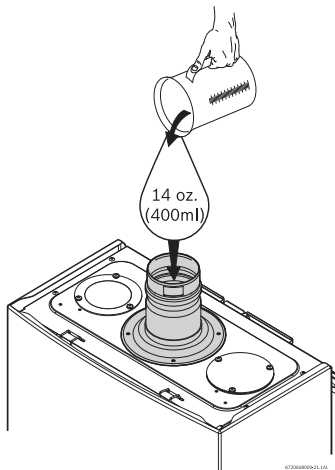

Fig. 35 Filling the condensate trap at start up
- Fill the condensate trap by pouring approx.14 oz. (400ml) of water into the exhaust accessory on the top of the appliance, see Fig. 35.